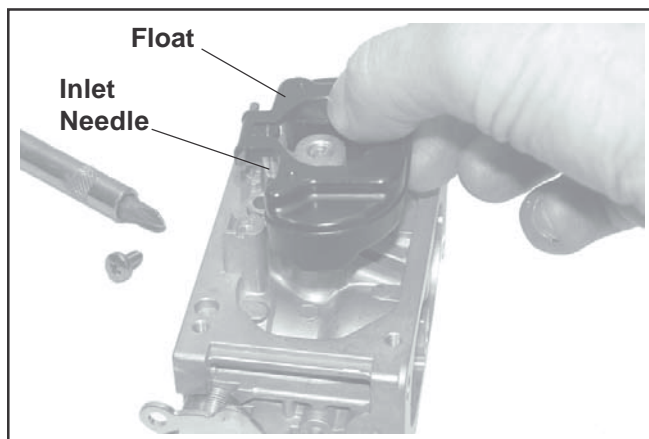

Figure 5-19. Removing Float and Inlet Needle.
2. Remove the float pin screw and lift out the old float, pin, and inlet needle. See Figure 5-19. Discard all the old parts. The seat for the inlet needle is not serviceable, and should not be removed.